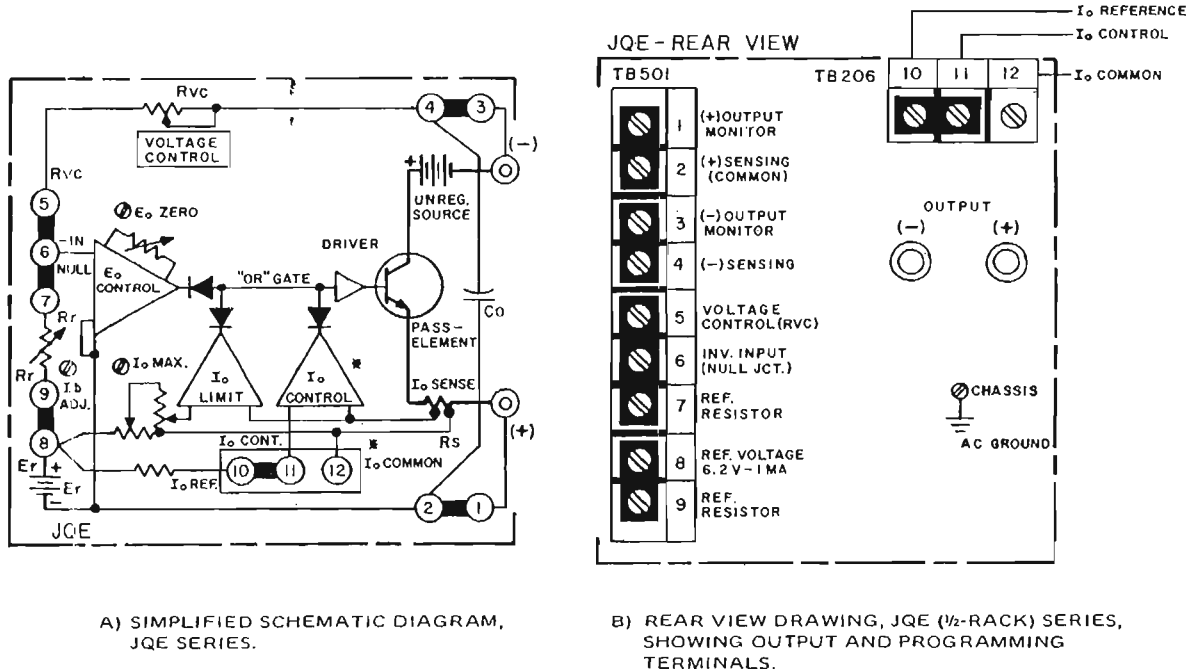
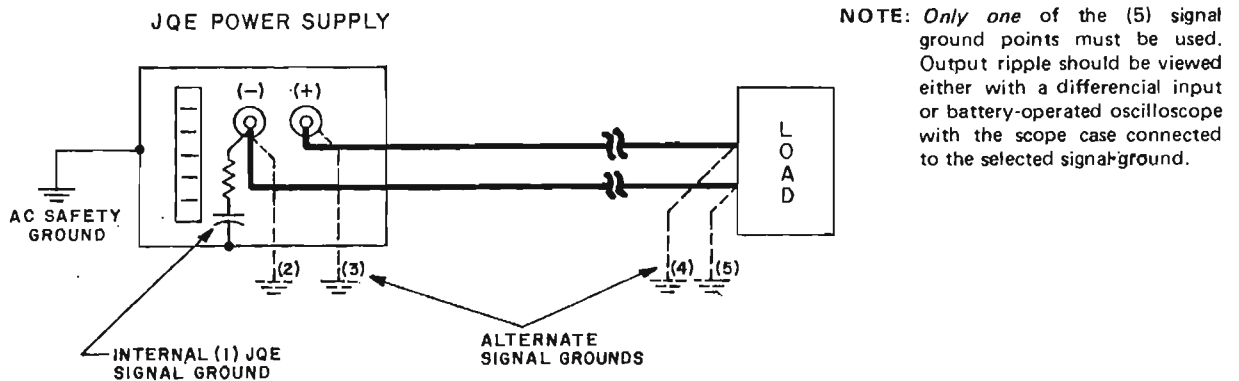

FIG. 3-1 REAR VIEW DRAWING AND SIMPLIFIED DIAGRAM, JQE SERIES.
FIG. 3-2 SAFETY AND SIGNAL GROUNDING.
- 3-5 CONNECTING DIAGRAMS (See FIG. 3-1). A (simplified) rear-view drawing is used to represent the JQE Power Supply in all connecting diagrams. A FOLD-OUT DIAGRAM AT THE END OF THIS SECTION (SECT III) IS PROVIDED, RELATING THE CONNECTING DIAGRAM TO THE JQE CIRCUITRY. The auxiliary barrier-strip (with terminals 10, 11 and 12) is used only on JQE Power Supplies with Option "Y."
- 3-8 A SIGNAL GROUND consists of a *single point* along the power supply/load circuit, to which one side of the power supply output and all the shields, instrument cases, etc., are connected and which is then, as a single wire, returned to a-c ground (Safety Ground), see FIG. 3-2.
- 3-9 Successful d-c grounding depends on careful analysis of the individual situation and only general guide lines can be provided here. One of the major points, however, is to avoid GROUND LOOPS. Ground loops are created when two (or more) points are "signal grounded" along the output circuit. Due to the wire impedance between the separated grounded points, a noise voltage is developed which subsequently is superimposed on the stabilized output of the power supply. The only way to avoid ground loops is to investigate the output circuit (including the connected load) carefully by means of an ohmmeter for any resistance to ground. A single d-c ground point can be selected only if the output circuit is completely isolated and a single point connected to the system. The exact location of this "best" d-c ground-point is entirely dependent on the application at hand. For single, isolated loads, the best d-c ground-point may be the internal signal ground (point [1] in FIG. 3-2) or it may be directly at one of the output terminals of the power supply (points [2] or [3] in FIG. 3-2). If error sensing is employed, however, a good d-c ground can be established at the remote load (points [4] or [5] in FIG. 3-2). In case of an internally grounded load, the d-c ground is automatically established directly at the load.
- 3-10 JQE Power Supplies have *one* side of the output returned to the case over a resistor/capacitor combination (refer to Sect. II, Par. 2-14). In those cases, therefore, where the *load* is internally grounded, or where the signal ground must be established elsewhere, the resistor/capacitor combination must be removed from the power supply case in order to avoid ground loop problems. This step is also required if the opposite side of the power supply output must be grounded at the load (point [3] in FIG. 3-1). If there is a choice in selecting either the positive or the negative output of the power supply for the d-c ground point, both sides should be tried, and preference given to the ground point producing the least noise. Output ripple specifications (as measured at the output) are, however, equally valid for either output side grounded. Care should be taken in measuring the ripple and noise at the power supply output or at the load. Measuring devices which are a-c line operated often introduce ripple and noise into the circuit (see note in FIG. 3-2).